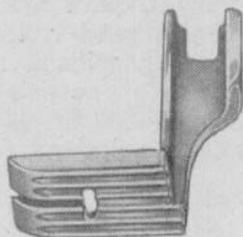
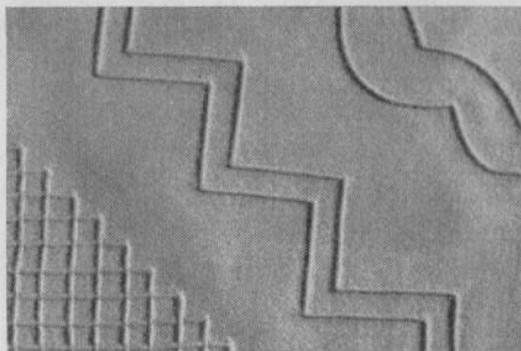

FIG. 59
FIG. 60
*Thin dressgoods* — use size 9 needle, closest needle distance, do not raise folder blade above surface of needle plate. Upper and lower thread tensions should be quite tight. Use presser foot with five narrow grooves at bottom shown in fig. 59.
*Heavier dressgoods* — use size 11 not raise folder blade above needle plate. Maintain normal thread tensions. Use presser foot with five narrow grooves (fig. 59).
*b. Parallel "Straw" Folds:* The five grooves at the bottom of the presser foot shown in fig. 59 can be used as guides to sew a parallel fold to one already made. Let the preceding fold "ride" in one of the grooves depending on the desired spacing and a whole group of folds can be spaced exactly alike. (Fig. 60.)